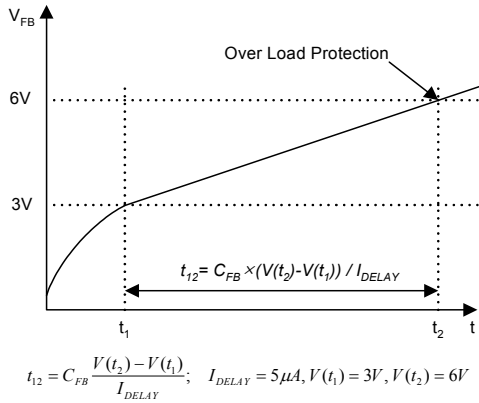

Figure 6. Over Load Protection (OLP)
4.1 Over Load Protection (OLP) : Overload is defined as the load current exceeding a pre-set level due to an unexpected event. In this situation, the protection circuit should be activated in order to protect the SMPS. However, even when the SMPS is operating normally, the over load protection (OLP) circuit can be activated during the load transition. In order to avoid this undesired operation, the OLP circuit is designed to be activated after a specified time to determine whether it is a transient situation or an overload situation. In conjunction with the Ipk current limit pin (if used) the current mode feedback path would limit the current in the Sense FET when the maximum PWM duty cycle is attained. If the output consumes more than this maximum power, the output voltage (V_o) decreases below its rating voltage. This reduces the current through the opto-coupler LED, which also reduces the opto-coupler transistor current, thus increasing the feedback voltage (V_{FB}). If V_{FB} exceeds 3V, the feedback input diode is blocked and the 5uA current source (IDELAY) starts to charge Cfb slowly up to Vcc. In this condition, V_{FB} increases until it reaches 6V, when the switching operation is terminated as shown in Figure 6. The shutdown delay time is the time required to charge Cfb from 3V to 6V with 5uA current source.